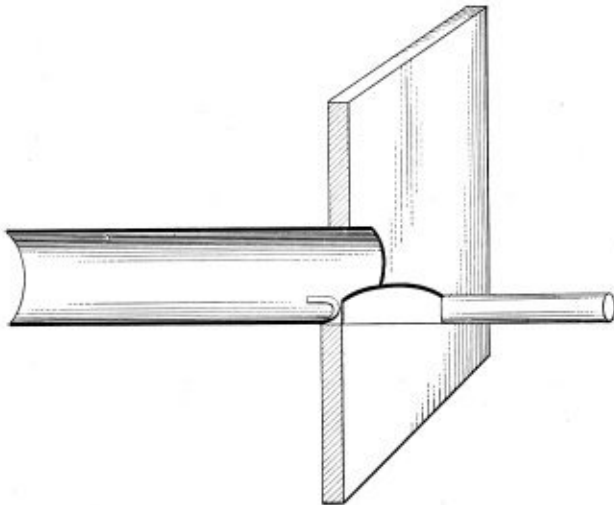

Fig. 1.—Cutting Out an Old Tube
A.—First, cut out the old tubes at the front tube sheet end by splitting the tubes back a distance of about 1½ inches. In this work use a cape chisel or a ripper of the form shown in Fig. 1. In Fig. 1 is also shown how the